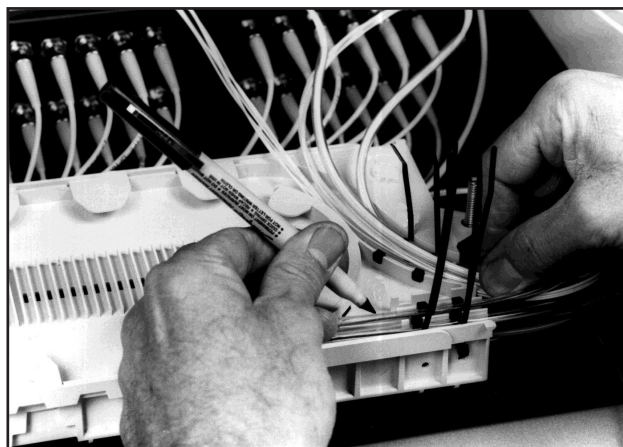

FIGURE 9 - MARK GROUPS IN SPLICE TRAY
- 8.05 Lay the Pigtail Assemblies within the wide entry slot of the Splice Trays and the provider fibers within the first two narrow slots and mark the tubes slightly beyond the tie down locations. (Figure 9)